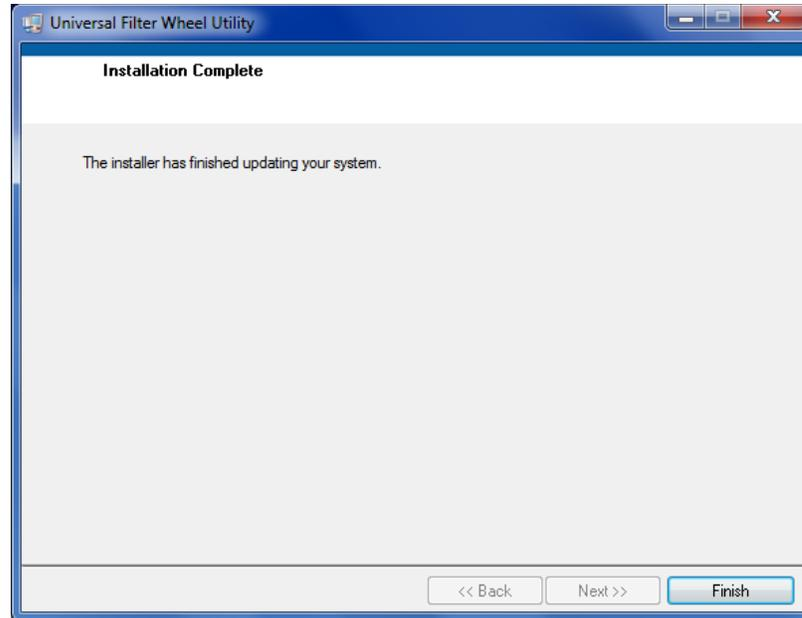

Figure 43: Finish Installation
- When the installation is complete, click "Finish". Refer to Figure 43.